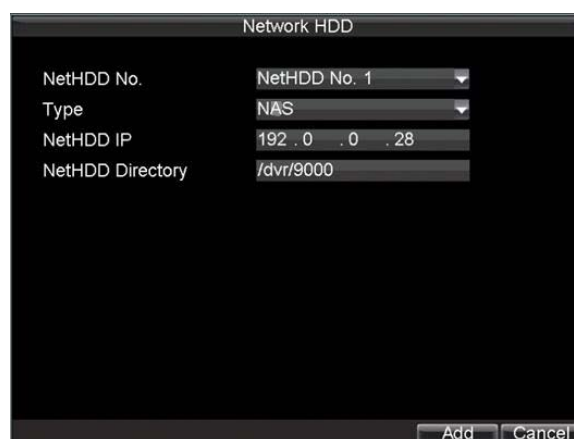

Figure 3. Network HDD Menu
- Select type as NAS or IP SAN, shown in Figure 3 when selected as NAS.